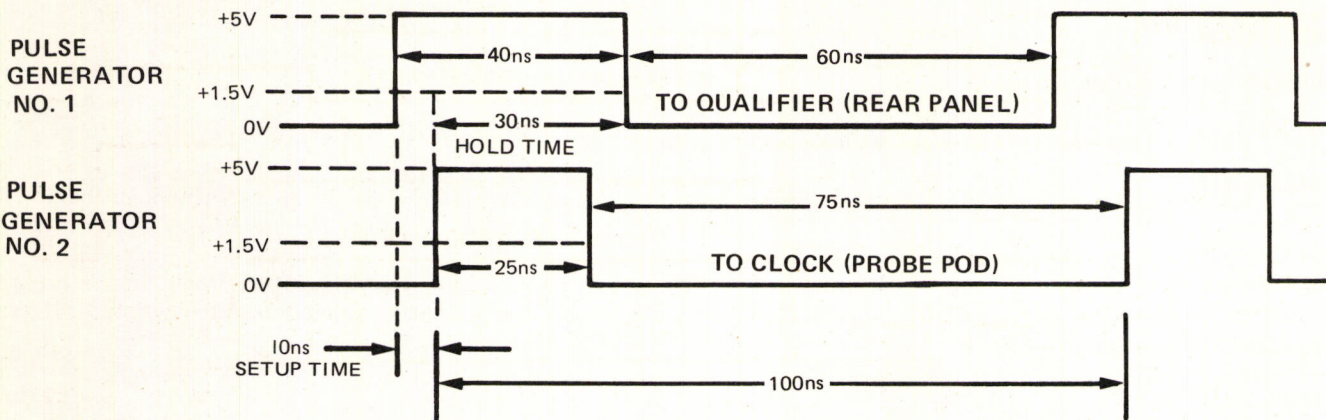

Figure 4-6. Trigger Qualifier and Clock Qualifier Inputs (Rear Panel) Test Waveforms
- b. Adjust pulse generator outputs as shown in figure 4-6.
- d. Vary pulse generator No. 2 pulse position (figure 4-6) until no qualifier condition is observed (1602A displays message E41). Verify that qualifier conditions are valid (data displayed by 1602A) for 10 ns setup time and 30 ns hold time.